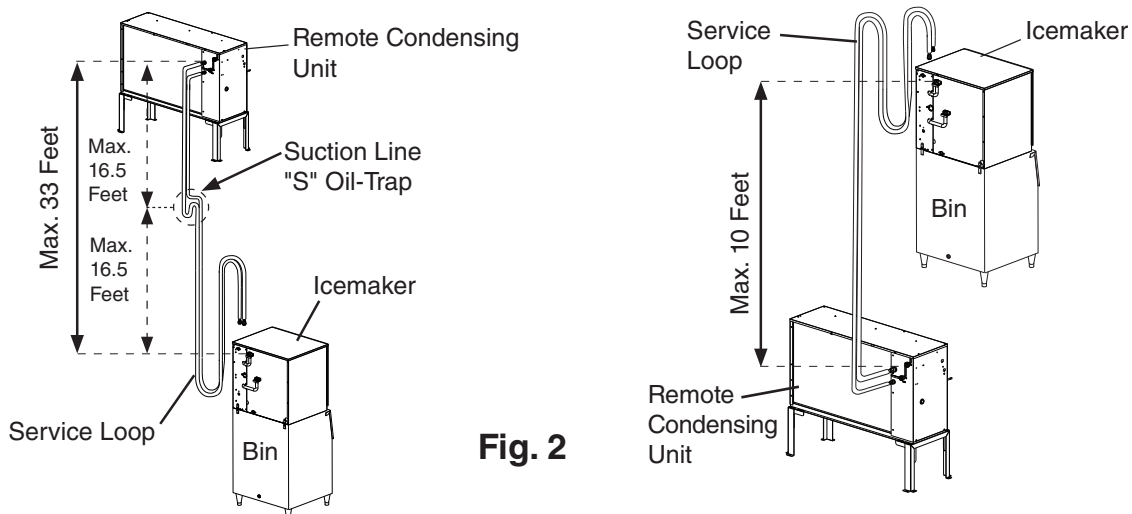

Fig. 2
- The maximum vertical distance between the remote condensing unit and icemaker is 33 feet above or 10 feet below the icemaker. These distances are measured fitting to fitting. See Fig. 2.